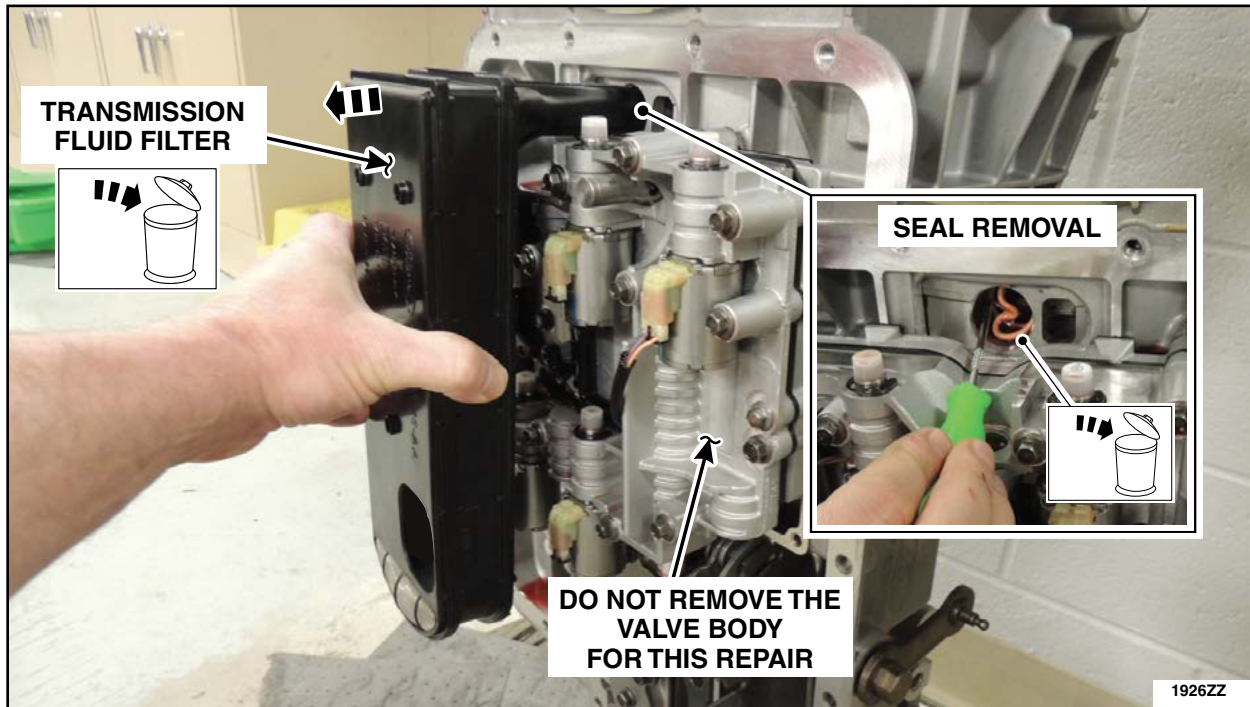

FIGURE 6
7. Remove and discard the transmission fluid filter and seal assembly. Use a right angle pick to extract the seal. See Figure 6.